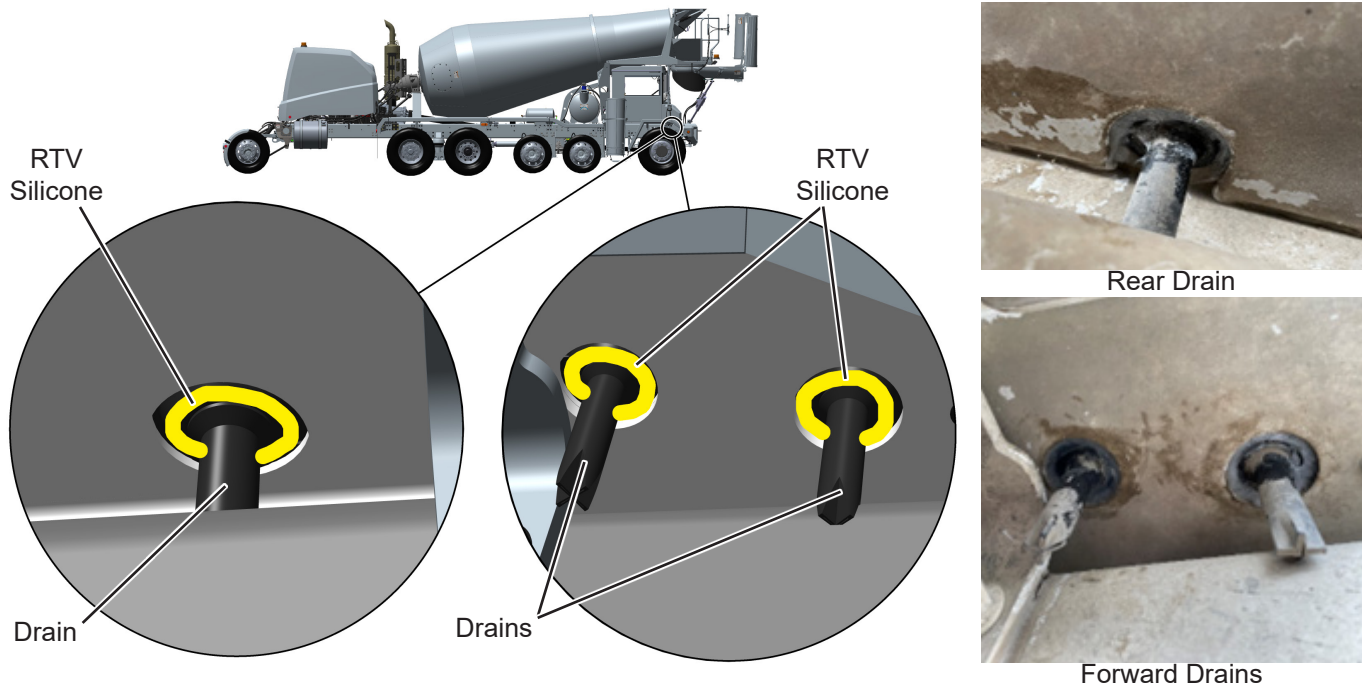

Figure 3. HVAC Drains
4. Apply RTV silicone around the 3 drains where drain comes through hole in bottom of cab. See Figure 3. Smooth RTV silicone around drain with a tool or rag and clean-up area.